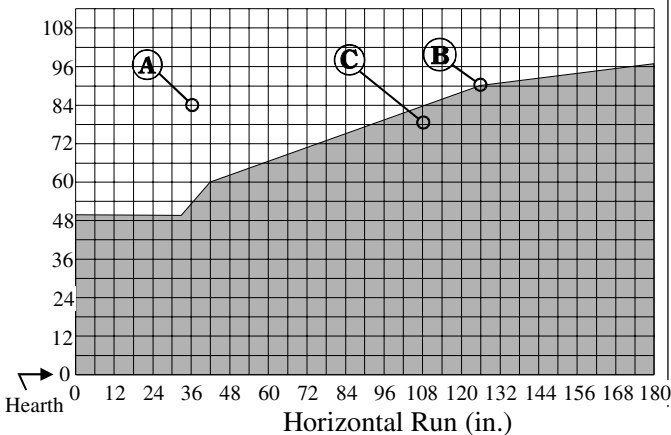

Figure 18a. MW38-DV Rear Vent Venting Graph
- your vent run must fall within the limits set by Figure 18a
Measure the vertical height from the fireplace hearth to the centre of the termination and the horizontal run from the fireplace flue collar to the wall flange of the termination. Plot on the Venting Graph (Fig. 18a) with an 'X'.
Venting runs *must* fall within the limits set by the venting graph (see Figure 18a).